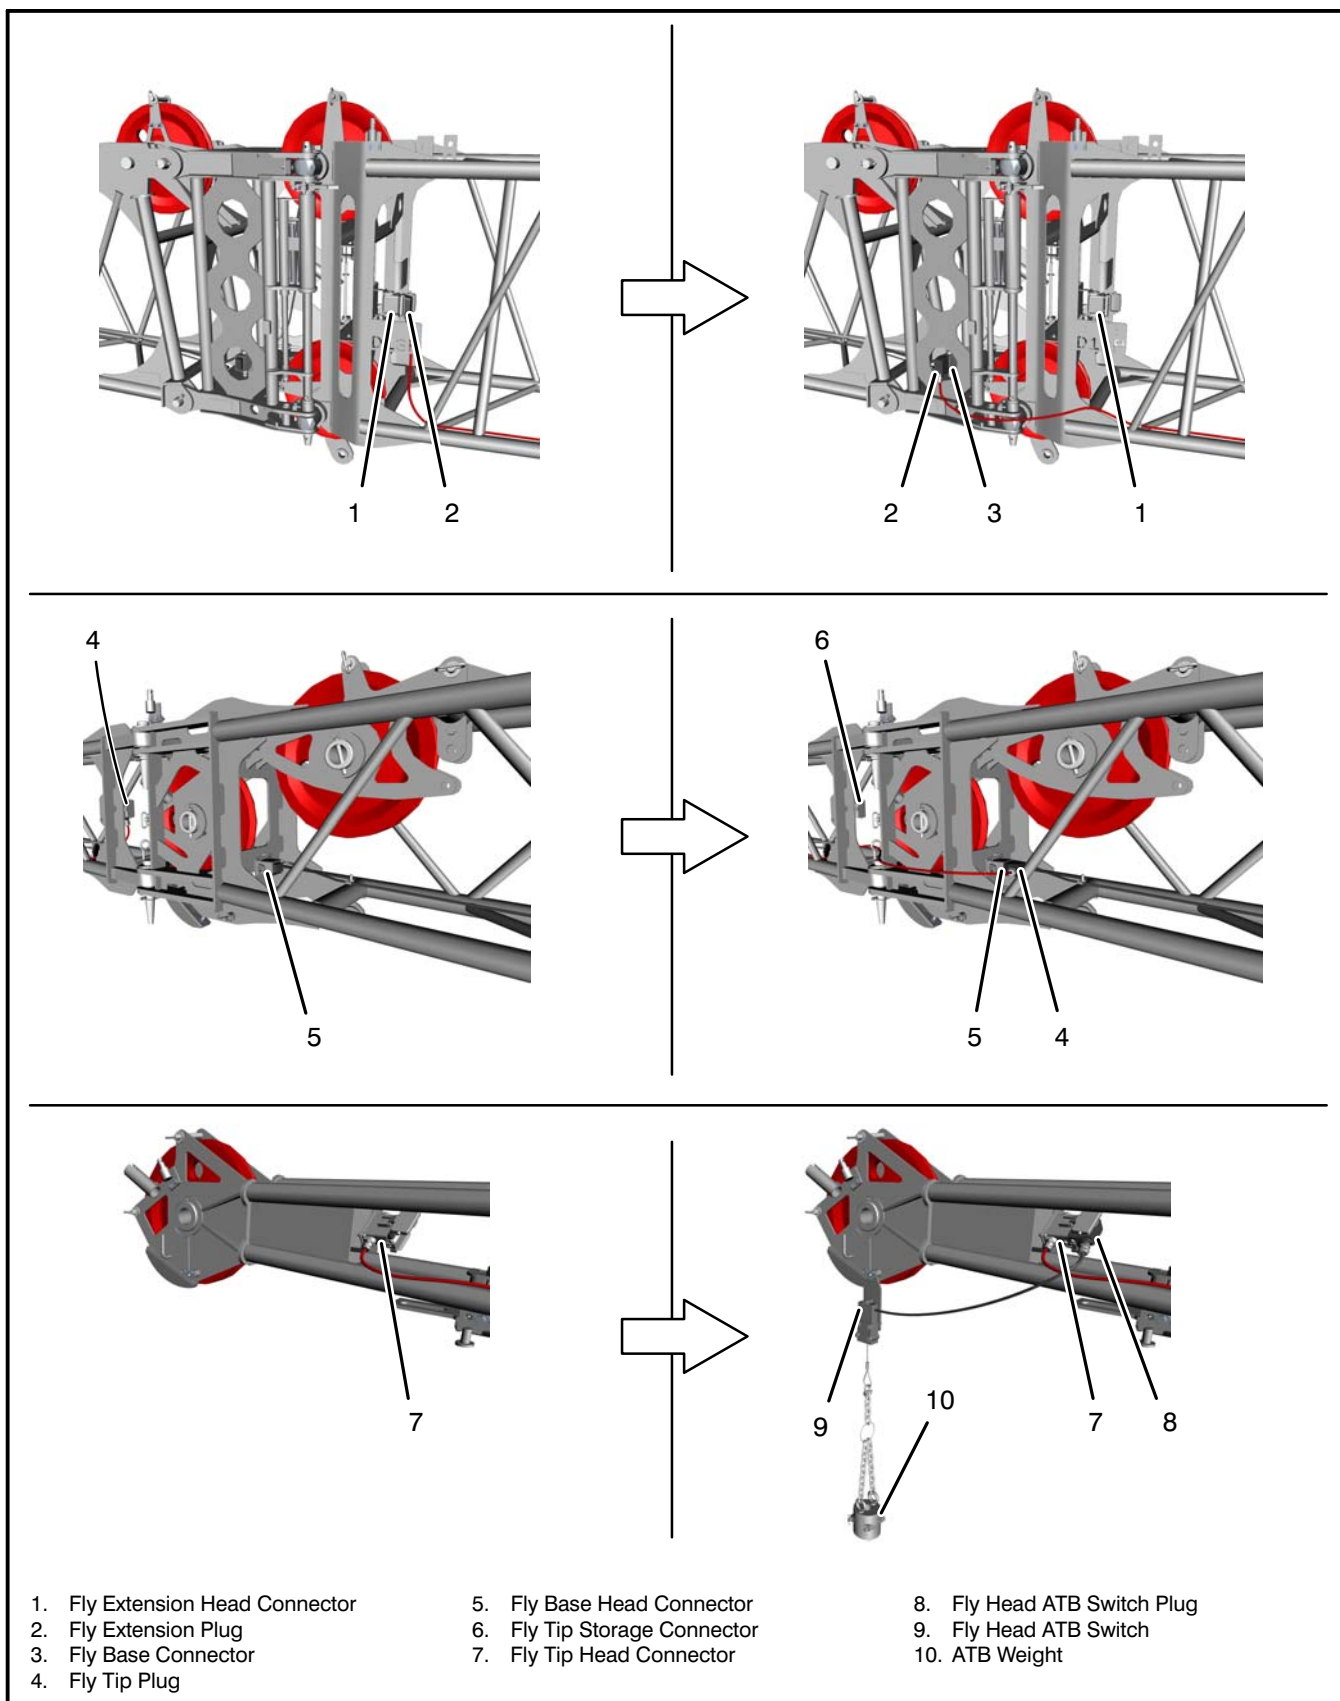

Figure 4-70
- d. Disconnect the fly extension plug from the fly extension head connector and connect it to the fly base connector. Refer to Figure 4-70.